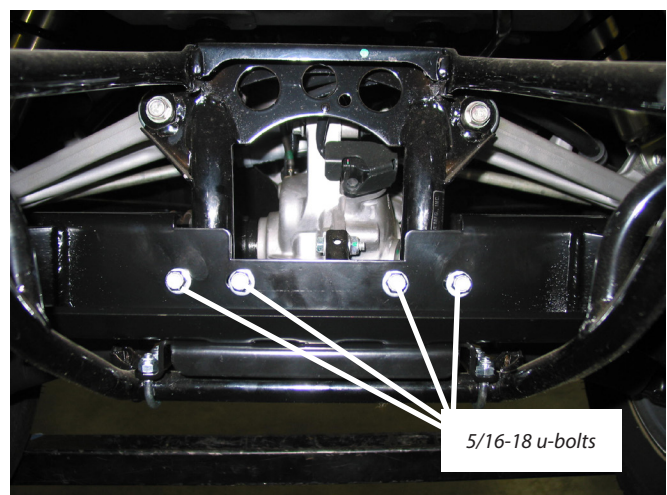

Figure 12
4. Install 5/16-18 u-bolts around vehicle frame and through back side of plow mount assembly as shown in Figure 12. Tighten snug, but do not overtighten. ***NOTICE NEVER overtighten u-bolt nuts. Overtightening may cause damage to vehicle frame.***